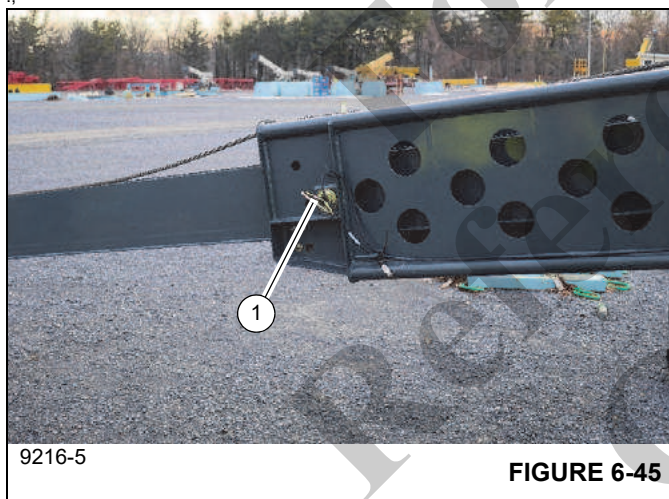

FIGURE 6-45
3. Remove the pin (1), (Figure 6-45) securing the telescoping section to the base section.